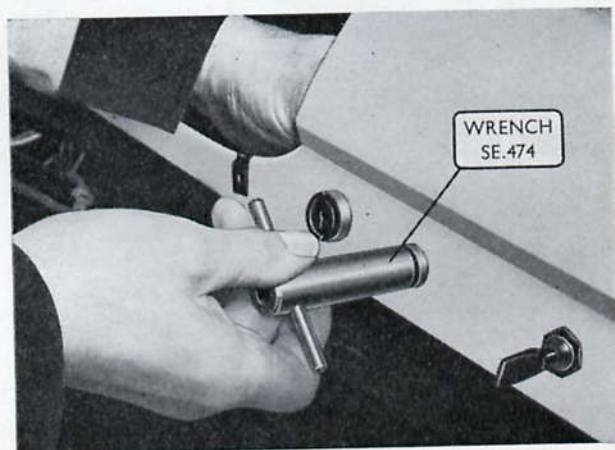

Fig. S.13. Removing the lighting switch locking ring
4. Unscrew the switch locking ring (Fig. S.13), withdraw the switch and disconnect the multi-socket connector.